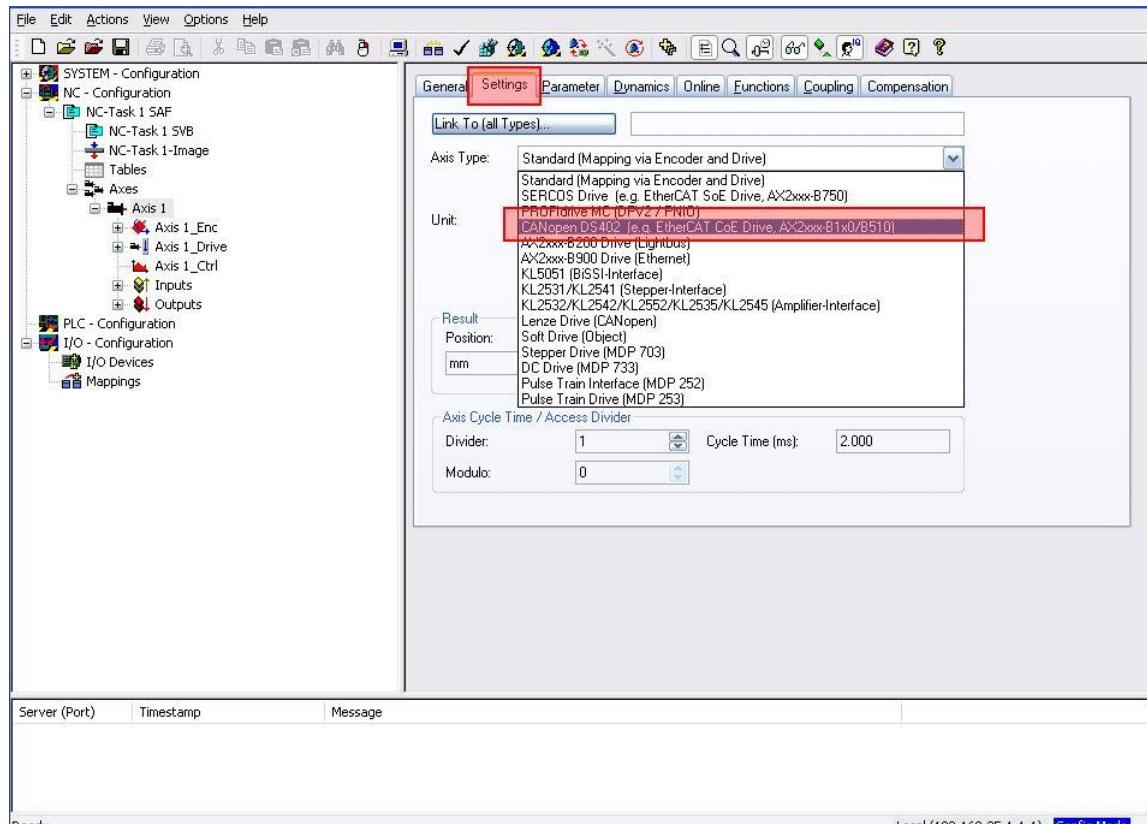

Figure 40: TwinCAT 2 CiA402 axis setup
- TwinCAT 2** : Add NC task ->Add continuous Axis -> set Axis type to "CANopen DS402" (see Figure 40).